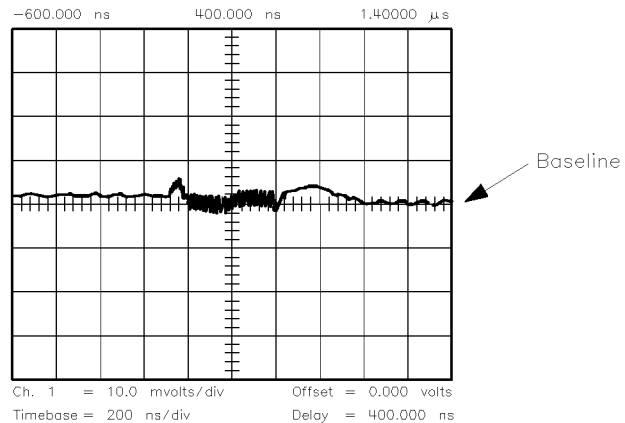

Figure 2-22. Measuring Maximum Voltage from the Baseline Video Feedthrough
16. On the oscilloscope, note the maximum voltage from the baseline (see Figure 2-22). Video feedthrough (V_p) = _____Vp